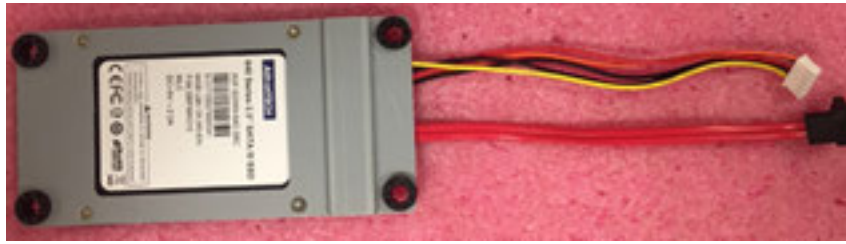

Figure 2.10 Secure SATA HDD with screws
- Using the four screws provided in the accessory box, affix the SATA HDD module to the HDD bracket (Figure 2.10).